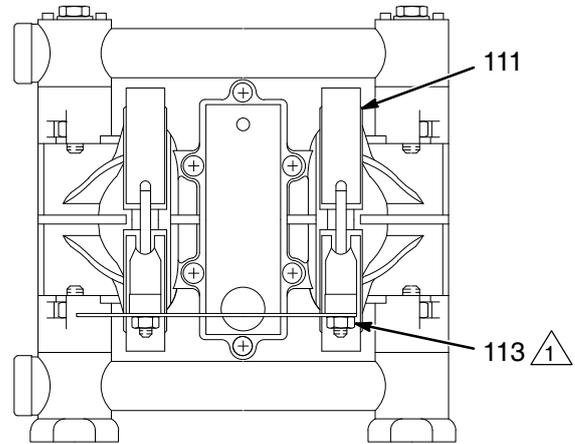

Fig. 7
When tightening the clamps (111), apply thread lubricant to the bolts and **be sure** to torque the nuts (113) to 5.6–6.8 N•m. See Fig. 7. See **Torque Sequence**, page 27.